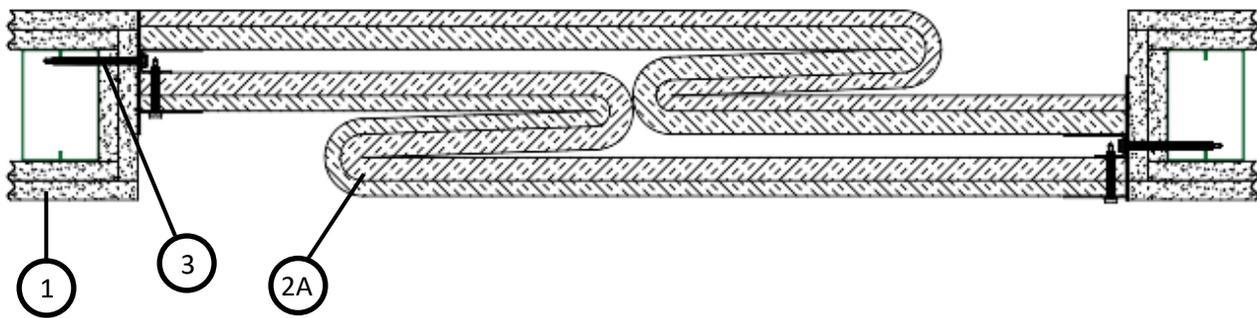

Figure 1.
- SUPPORTING CONSTRUCTION:** Min. 2-hour rated gypsum wall assembly made from min. two layers of 5/8-in. thick Type X gypsum board, fastened to min. 25 GA steel studs or min. 2x4 wood studs in accordance with the corresponding listed design. Install steel box studs or wood double studs on both sides of the joint. Min. two layers of 5/8 in. Type X Gypsum board must be present in the throat of the joint as shown in Figure 1.